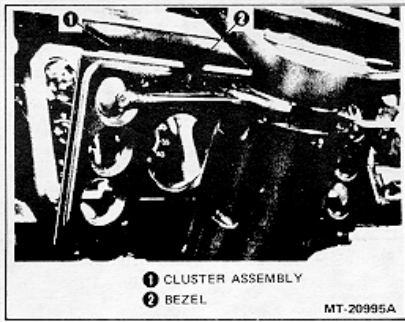

Fig 6 - Removing Instrument Cluster Bezel
1. With the four cluster mounting screws removed, remove a fifth mounting screw from center of cluster bezel and detach bezel (Figure 6) Figure 6 - Removing Instrument Cluster Bezel